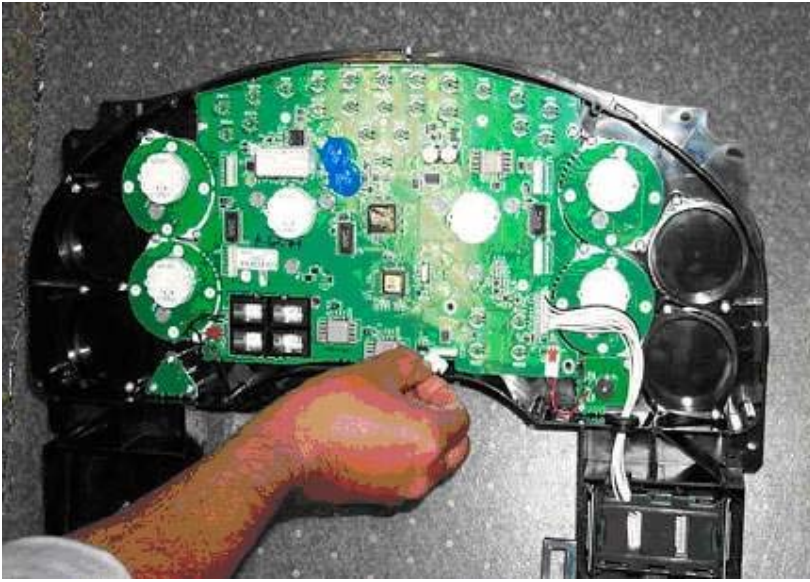

Figure 7 Disconnect LCD Harness Connector
8. Disconnect LCD display harness connector from the cluster center circuit board (Figure 7 and Figure 8).